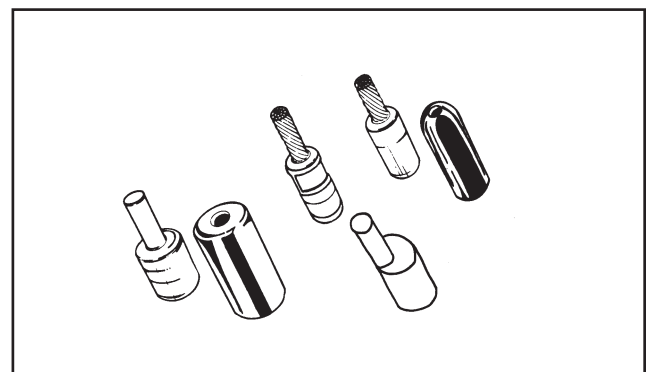

Figure 16
- a) Use listed AL7CU or AL9CU adapter fittings specifically designed for this purpose (Figure 16), or